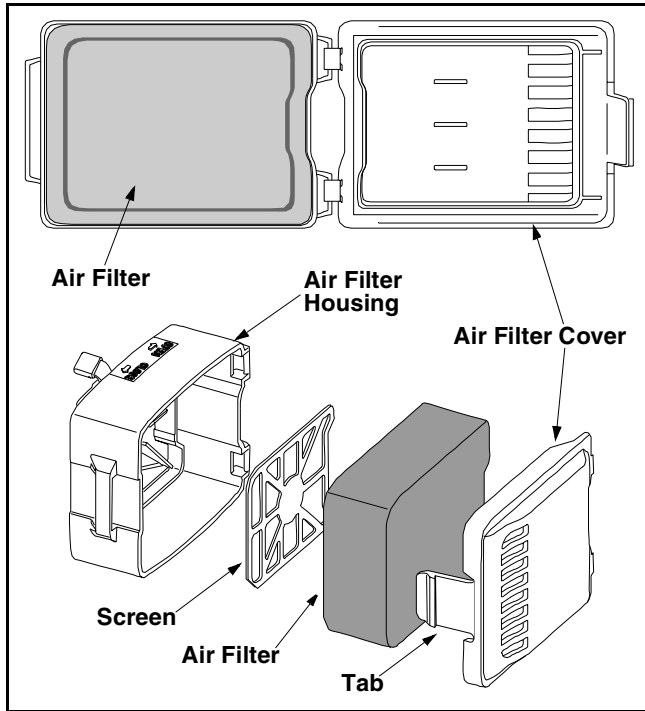

Figure 9
- Open the air filter cover on side of engine by pushing the tab on the left side in and swinging the air filter cover out and off. See Figure 9.